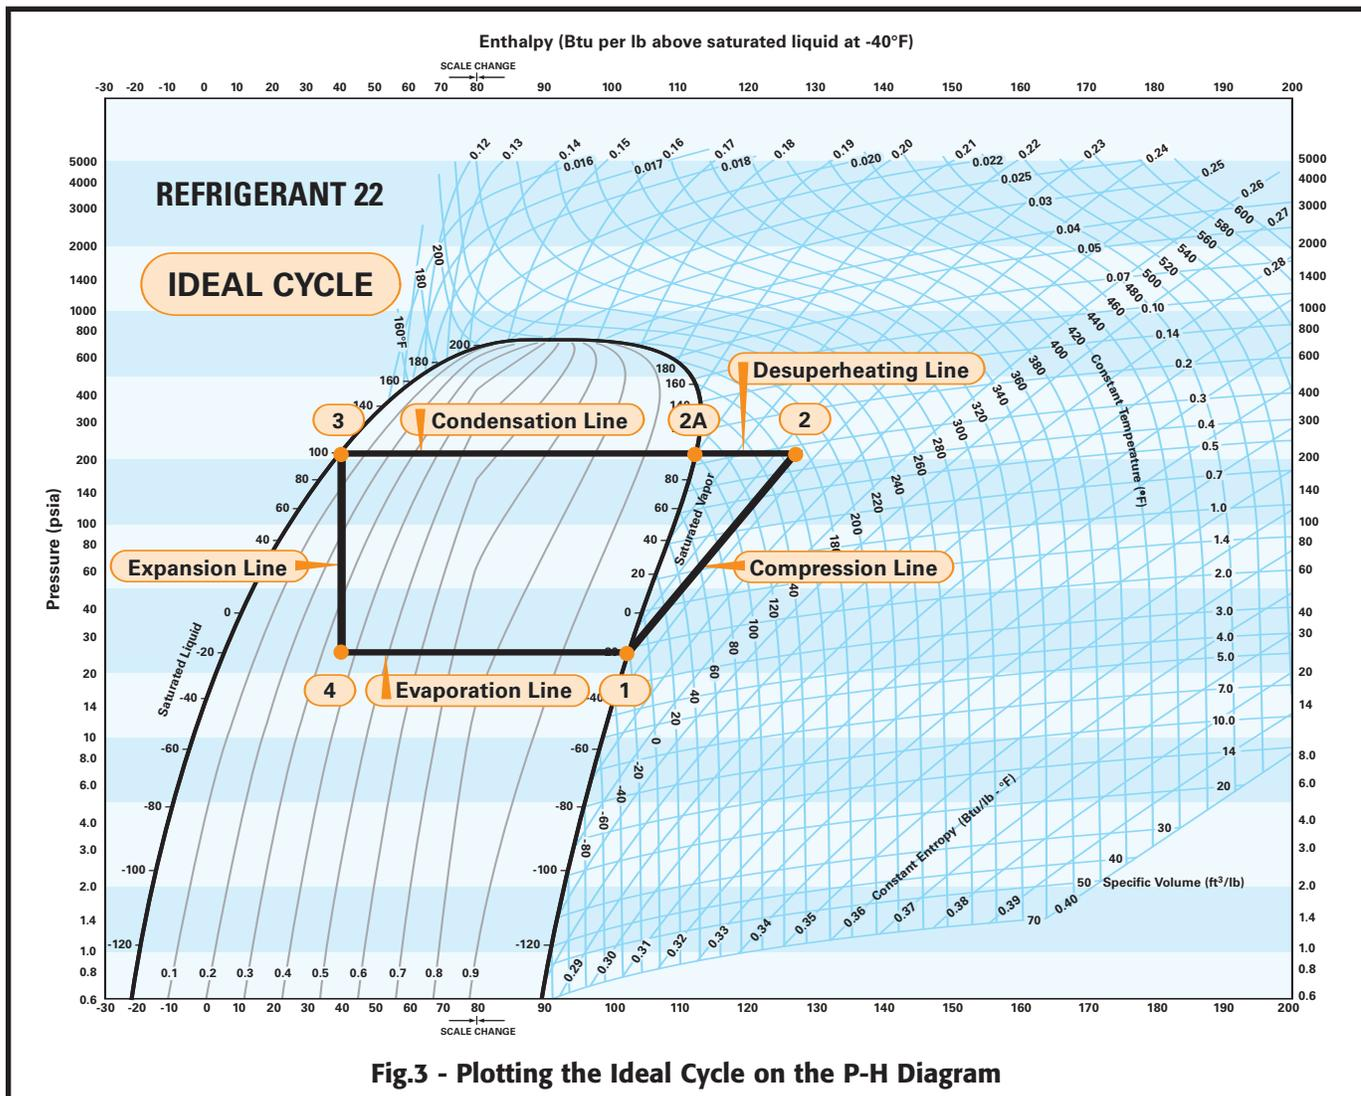

Fig.3 - Plotting the Ideal Cycle on the P-H Diagram
The saturated vapor entering the compressor suction would be at -20°F, illustrated by point #1 in Fig. 3. The vapor is compressed, following the constant entropy line to the pressure corresponding to 100°F, or 210.7 psia (point #2). The refrigerant vapor experiences a sensible heat gain during the mechanical compression process, resulting in a superheated vapor. This is illustrated by the location of point #2, to the right of the saturated vapor line. In the ideal system, which does not consider pressure loss in the valves, refrigerant tubing, etc., point #2 represents the outlet of the compressor/inlet of the condenser.
Refrigeration Effect (RE): This is the total heat transfer, in Btu/lb, from the refrigerated space to the refrigerant. H1 minus H4 (H1 is the enthalpy of the refrigerant at point #1 in Fig. 3, and so forth).